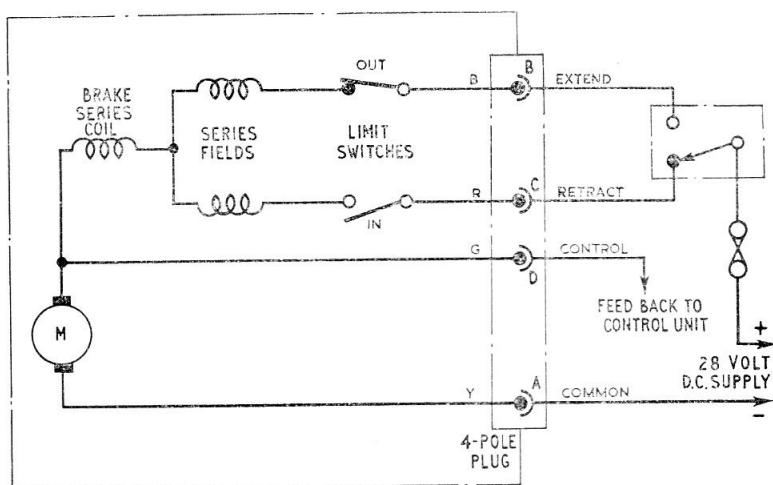

Fig. 3. Circuit diagram
2. The circuit diagram of this model differs from the typical actuator. An additional connection is made to pole D as shown in fig. 3.